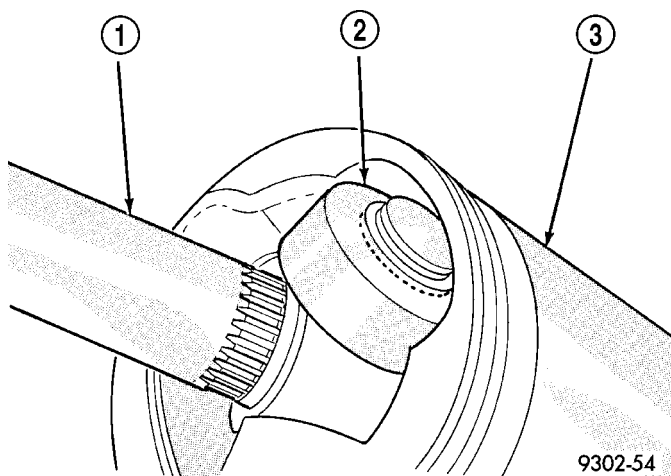

Fig. 22 Spider Joint Assembly Removal From Housing
(3) Slide the interconnecting shaft and spider assembly out of the tripod joint housing (Fig. 22).